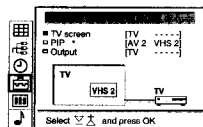

Fig. 45
- Select the symbol for »Video Connection« with Δ + or ∇ - and press OK. The VIDEO CONNECTION menu appears. (See Fig. 45)